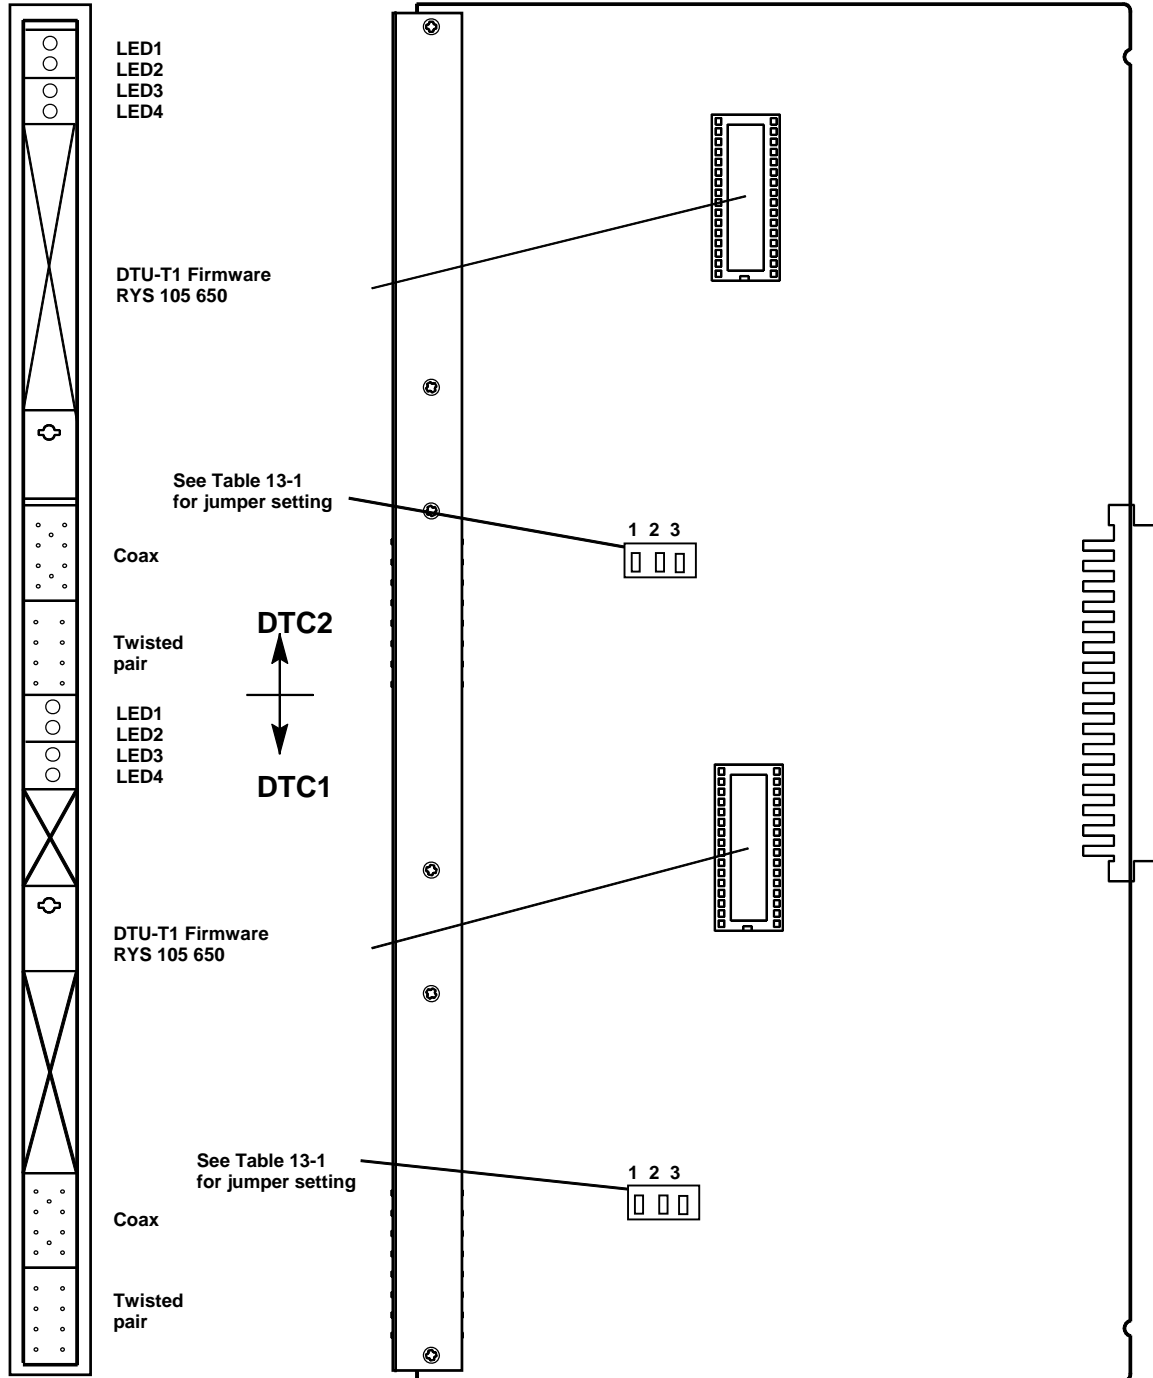

Fig. 13-1 DTU-T1- REX-BRD0021 or 2/ROFNB 157 13/3
The DTU-T1 has the following field-exchangeable parts (see Figure 13-1 for placement & orientation):
The DTU-T1 board has 4 connectors at the front, two for each DTC. Only the twisted pair connector is used. See Figure 13-1.
1. Place the DTU-T1 Firmware PROMs and check the strap setting (see Figure 13-1).